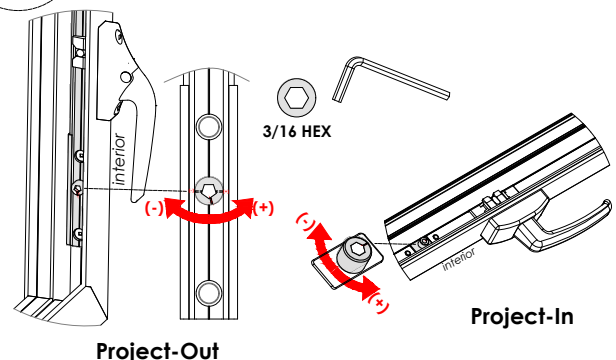

FIG. 7
- Using 3/16 HEX KEY adjust cam bolts. **FIG. 7**